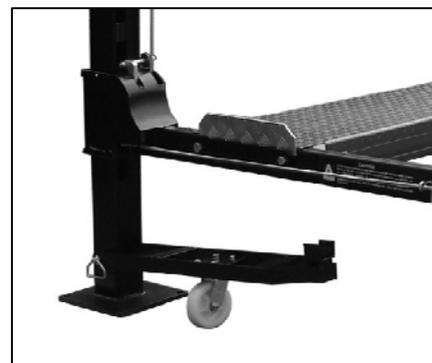

Fig. 29
3. Mount on the wheel racks.(Fig. 29)